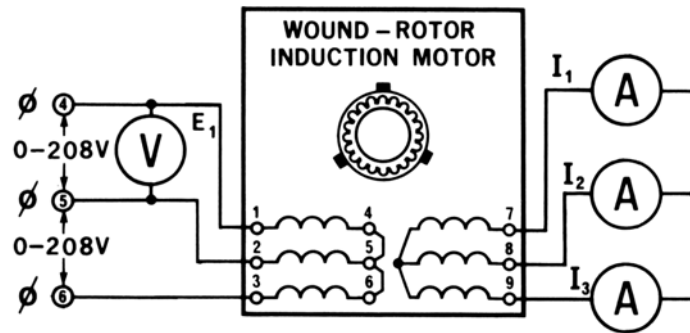

Figure 13-2
- 2) Connect the circuit shown in Figure 13-2. Note that three stator windings are connected to the variable 3-phase output of the PS (terminals 4, 5, and 6).